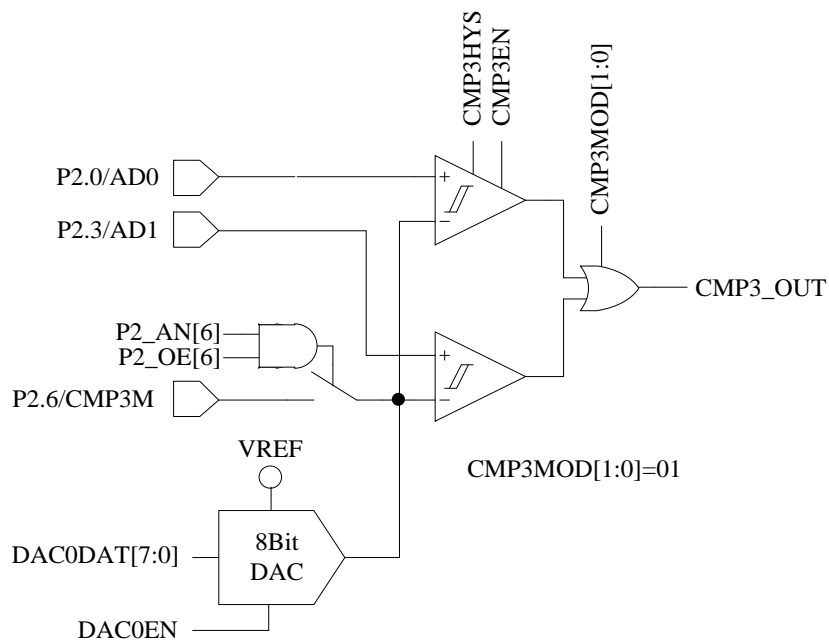

Figure 30-3 Dual-comparator Input Mode (CMP_CR1[CMP3MOD] = 01)
- When CMP_CR1[CMP3MOD] = 01, CMP3 works in dual-comparator input mode. The connection of input and output pins are shown in Figure 30-3.